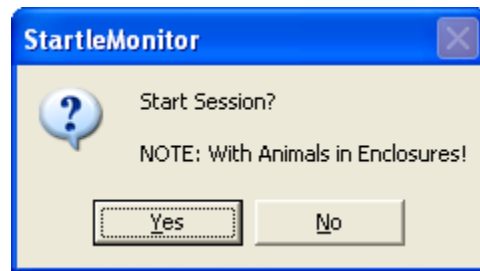

Figure 116 Start Session
7. The following window (Figure 116) appears: